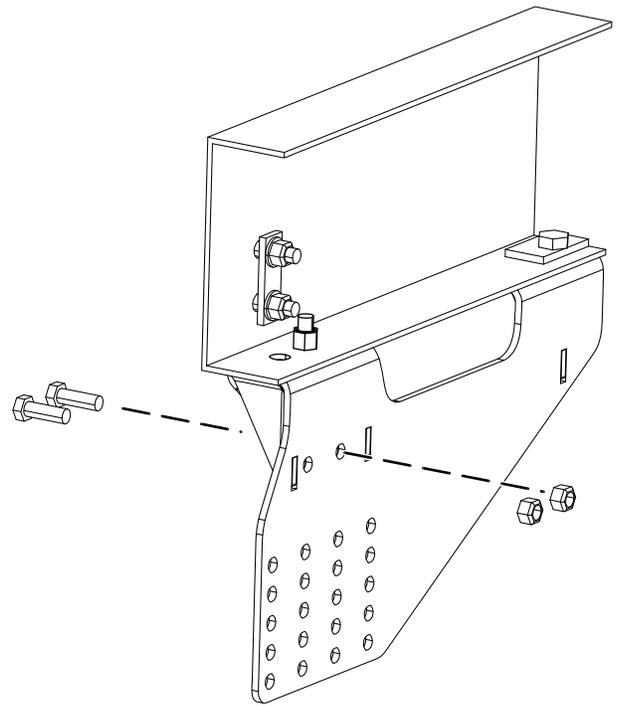

Figure 3
- Attach the side straps to the side plates using 4 bolts (1/2 inch) and 4 nuts (1/2 inch) as shown in Figure 3.